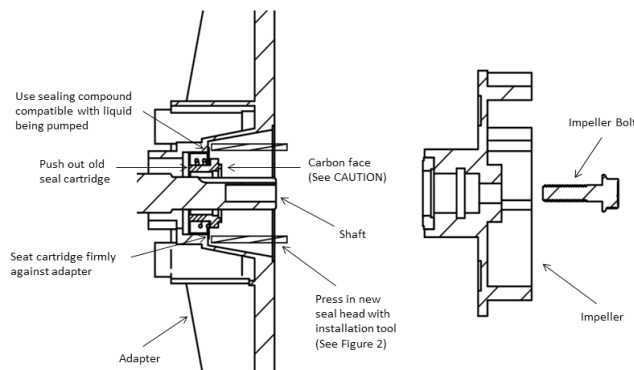
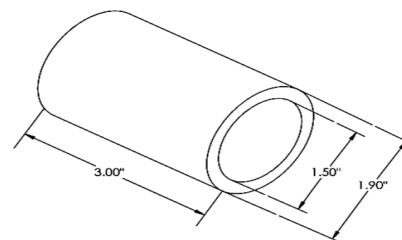

Figure 1 - Mechanical Seal Replacement
Figure 2 - Seal Installation Tool (Ref. No. 31)
Refer to figures 1, 2 and 3.
9. Apply a light coat of sealing compound to new seal head (See Figure 1) and press it into adapter recess using proper size tube or installation tool (see Figure 2). DO NOT press on carbon face. Install using flange only.